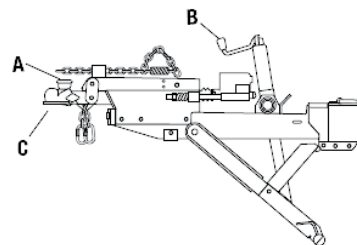

Figure 6
5. Turn the tongue jack handle (B) to raise the coupler (C) off the ball (Figure 6).